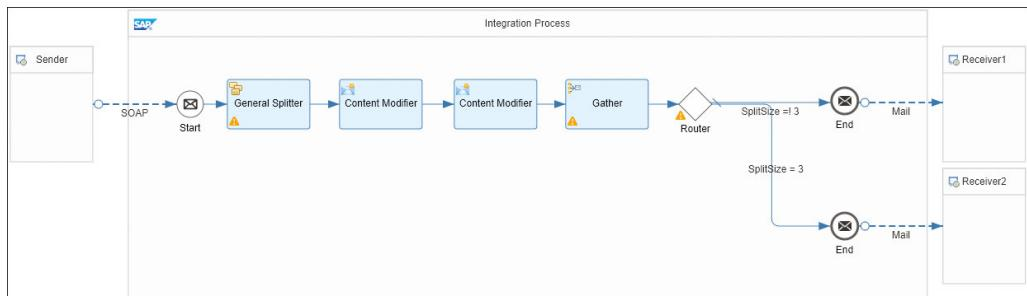

Figure 6.20 Message Split Integration Flow with an Additional Routing Step and Two Email Receivers
We'll now modify the integration scenario shown in Chapter 5, Figure 5.18, in the following way: After having split the larger message into individual messages and joining it back into a single one (as depicted in Chapter 5, Figure 5.29), we introduce a **Routing** step that sends the final message to a dedicated email receiver (with a specific email **Subject**) in case the message contains exactly three items. In all other cases (when the joined message contains a different number of items than three), the message is forwarded to another email receiver (to keep it simple, we in fact use the same email account for both receivers, but we only specify another email **Subject** in the other mail adapter). The integration flow is shown in Figure 6.20.
- In the upper mail adapter to which messages with the condition `SplitSize = 3` (refer to Figure 6.20) are routed, enter, for example, “No of items =! 3” as the **Subject**.
The email subject is **No of items != 3**, which proves that the message has taken the upper route in Figure 6.20, shown previously.
The email subject is **No of items = 3**, which proves that the message has taken the lower route in Figure 6.20, shown earlier.